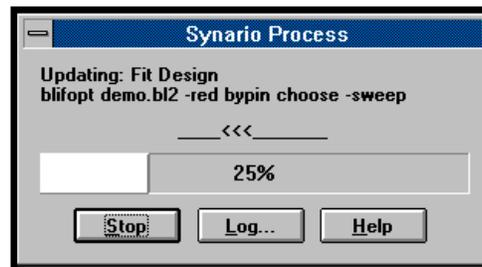

Figure 1-17. Synario Process Dialog Box
36. Select the ispLSI 2032-150 TQFP44 source and observe the related processes. Double click on the process Fit Design. A Synario Process dialog box appears momentarily (Figure 1-17). The Navigator finishes compiling the source, then links the source files together. Finally, the Navigator partitions and fits the design into the LSC part.